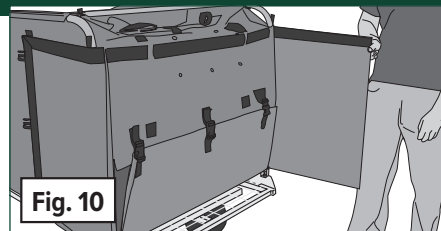

Fig. 10
(Fig. 10) For some mowers, the deck hose included may be too long. If the mower deck hose is drooping or not completely off the ground, follow the instructions below to shorten the hose so it fits correctly as shown. This is essential for optimal clog resistance.
1. **(Fig. 10)** Open the three outer buckles on the rear doors. Pin the two doors back onto the Velcro® on the sides of the collector bag.